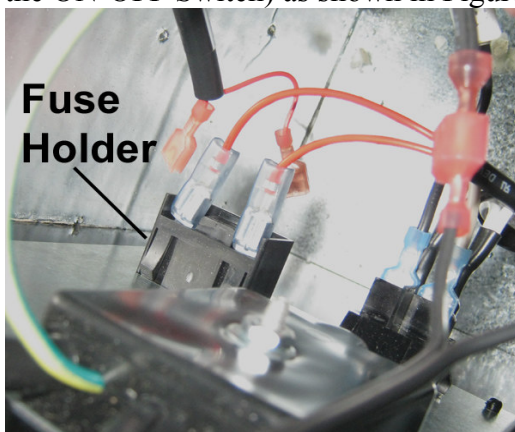

Figure 3
4. Disconnect the 2 Red wires at the Fuse Holder and connect the 2 Red wires of the 22455 Harness as shown in Figure 3, and the mating connectors from this harness to the power supply.